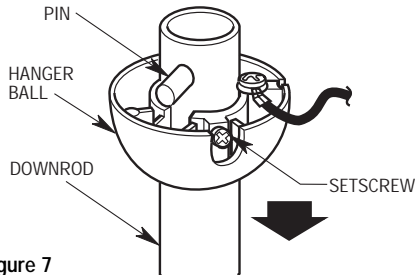

Figure 7
- 11. Remove the hanger ball by loosening the setscrew in the hanger ball until the ball falls freely down the downrod (Figure 7). Remove the pin from the downrod, then remove the hanger ball. Retain the pin and hanger ball for reinstallation in step 18.